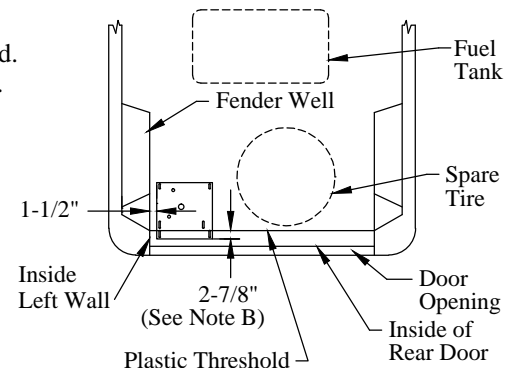

Figure 3: Base plate location and obstructions.
- 5. Position** the base plate in the van as described in note A or B (Figure 3). The base plate should be parallel with the floor ribs, not the van doors.